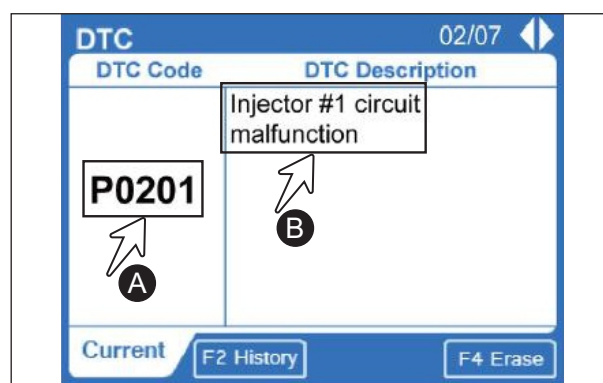

Fig. 7.10
- DTC error code (A) (Fig. 7.10)
- DTC description (B) (Fig. 7.10)